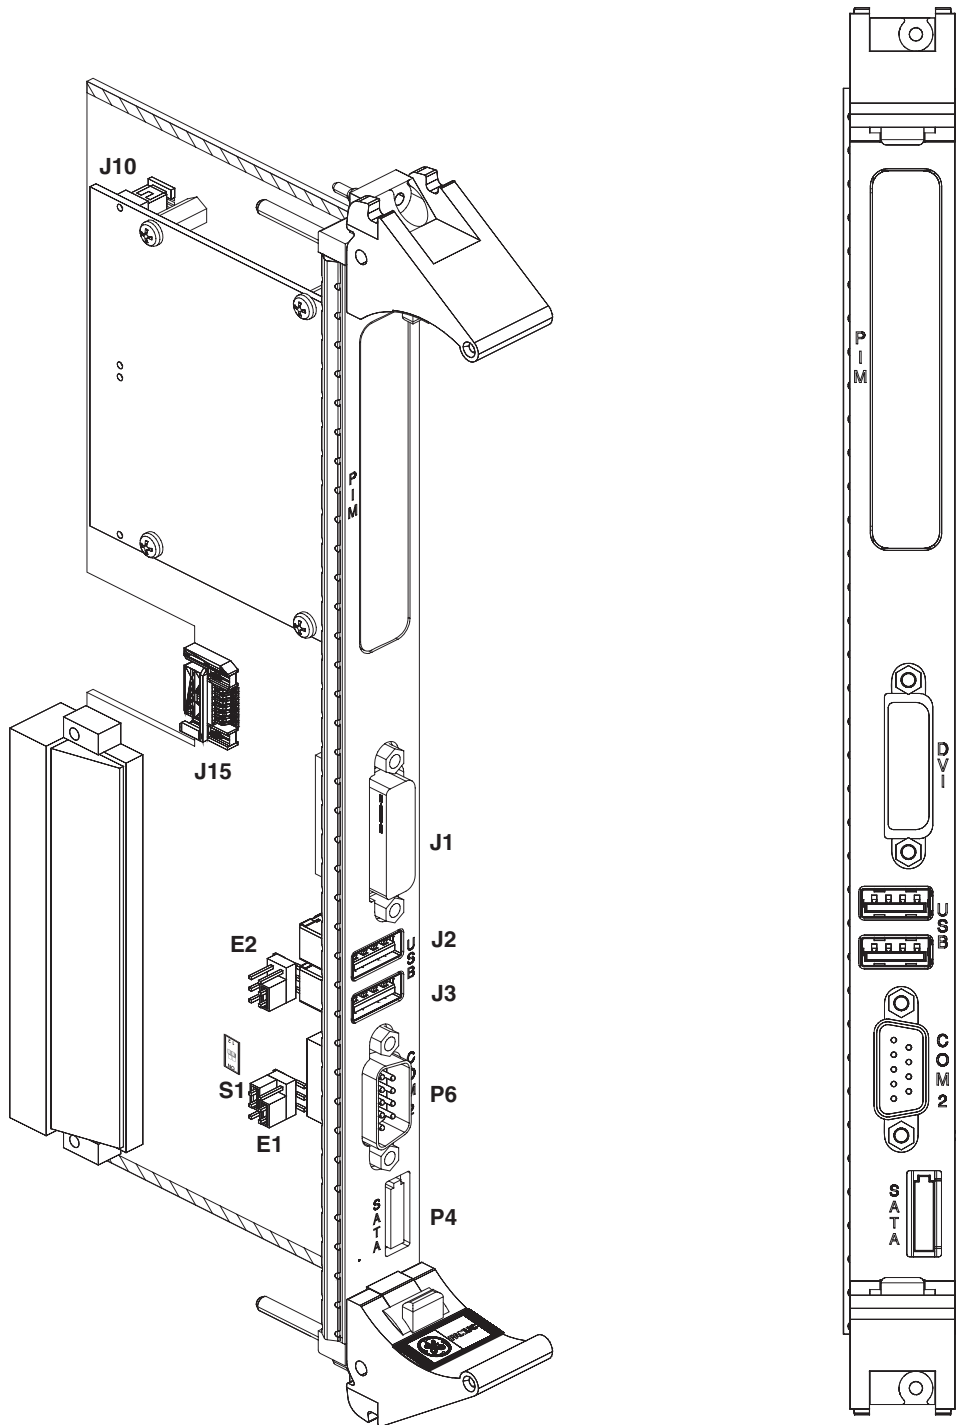

Figure 1-1 ACC-0603RC Rear Transition Module
- Figure 1-1 ACC-0603RC Rear Transition Module 12
See Figure 1-1 on page 12 for an illustration of the board and connector layout.